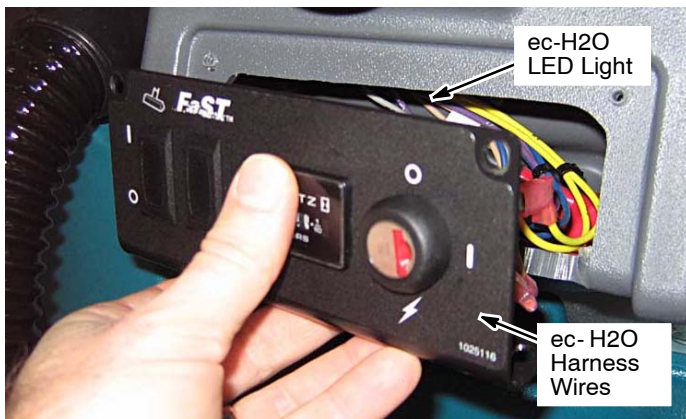

Fig. 25
3. Remove the lower control panel from console (Figure 25).